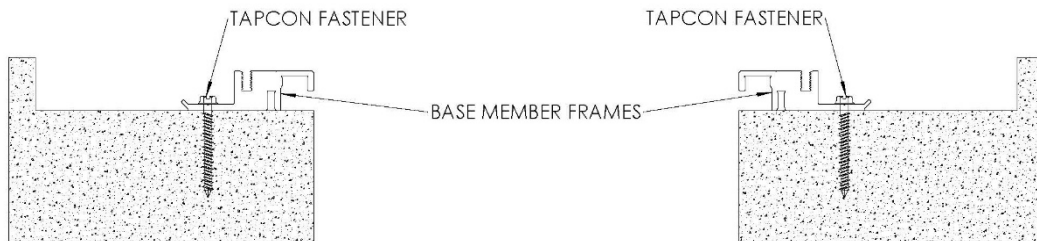

FIGURE 2
2. Position base member frames in blockout per shop drawings. Using the frame as a template mark, drill  $\text{Ø}5/32$ " holes for Tapcon fasteners. Align frame edge with joint face – typical both sides. Install base member frames to the blockout opening with fasteners, making sure not to over tighten. **See Figure 2**